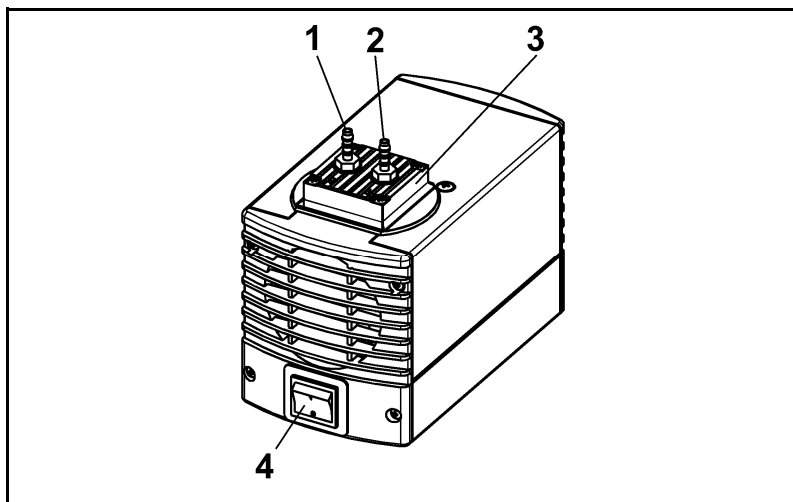

Fig. 2
- ➔ Switch on pump with mains switch (see fig. 2 and 3, depending on pump type)
- ➔ Switch off pump with mains switch (see fig. 2 and 3, depending on pump type).